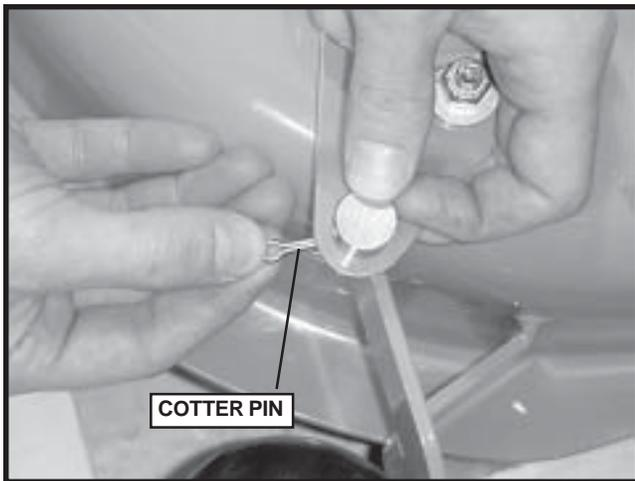

FIGURE 19
6. Place the 3/8" SAE washer on the bottom side of the swivel then insert the cotter pin. See Figure 19.